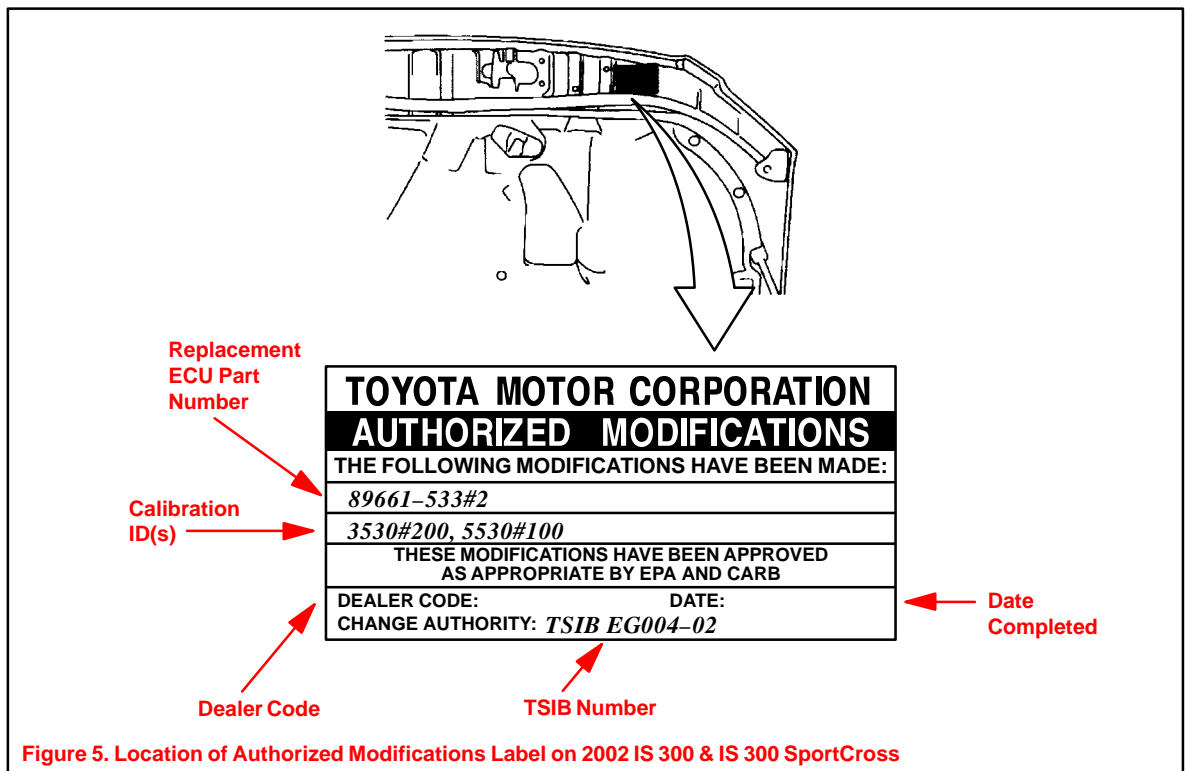

Figure 5. Location of Authorized Modifications Label on 2002 IS 300 & IS 300 SportCross
6. Check for the Authorized Modifications Label affixed to the vehicle in the location shown in Figure 5. Confirm if ECM calibration has been updated. If not latest ECM calibration – go to step 7.
3. Enter the required information on the Authorized Modifications Label and affix it to the vehicle at the location shown in Figure 5 (page 5). The Authorized Modifications Label is available through the MDC, P/N 00451–00001–LBL.